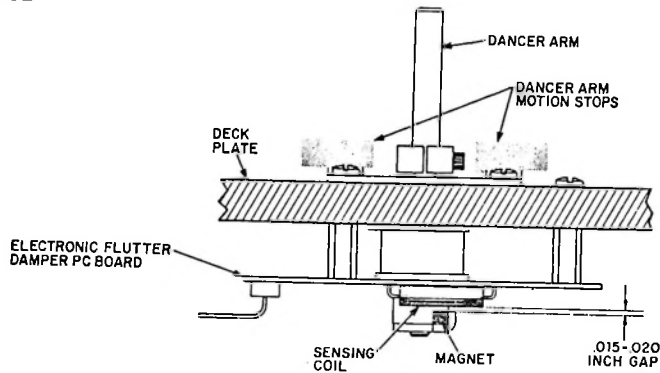

Figure 3
- c. Refer to figure 3. Center the dancer arm between its motion limit stops. Insure that the magnet is centered over the sensor coil with a .015 to .020 inch gap between the coil and the magnet. Tighten the retaining screw.